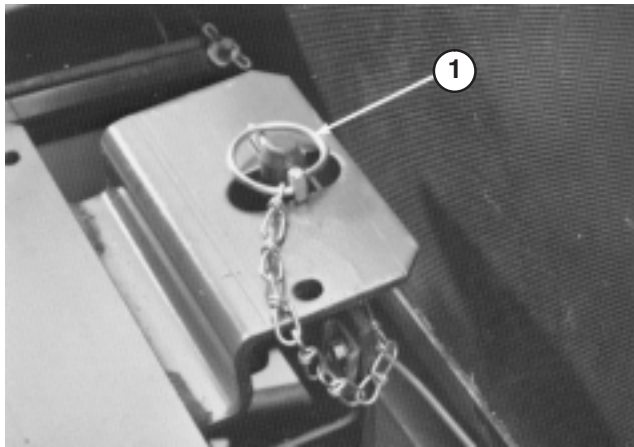

Figure 10
8. Disengage seat support rod and pivot downward. Pivot seat down and push lynch pin through seat latch stud. Flip wire end of pin over latch stud (Fig. 10).